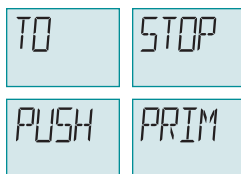

Figure 2-34 TO STOP PUSH PRIM
4. Display will read TO STOP PUSH PRIM (Figure 2-34).
3. Display will read TO STOP PUSH PRIM (Figure 2-34).